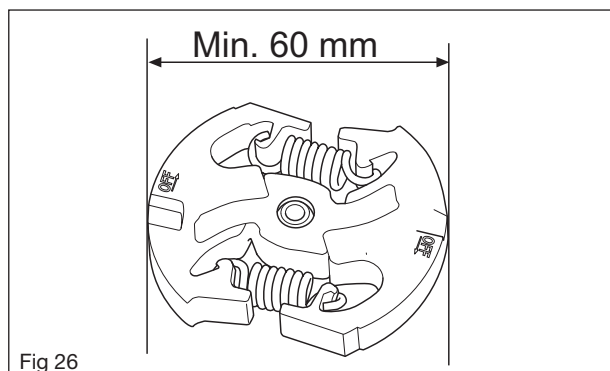

Fig 26
- Check the thickness of the clutch shoes by measuring them with slide callipers across the whole clutch hub. If the thickness is below 60 mm, the entire clutch must be replaced. See Figure 26.